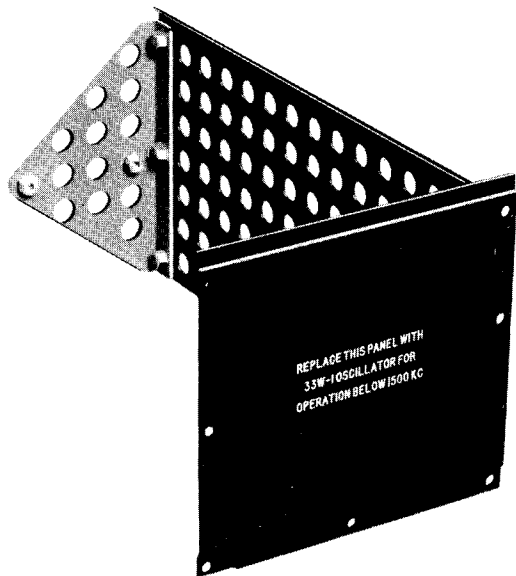

Figure 5-3. Type NX-128/ART-13 Dummy Low Frequency Oscillator Unit—Front View
1. Remove the seven screws that hold the low-frequency panel in place. Refer to figure 5-3.